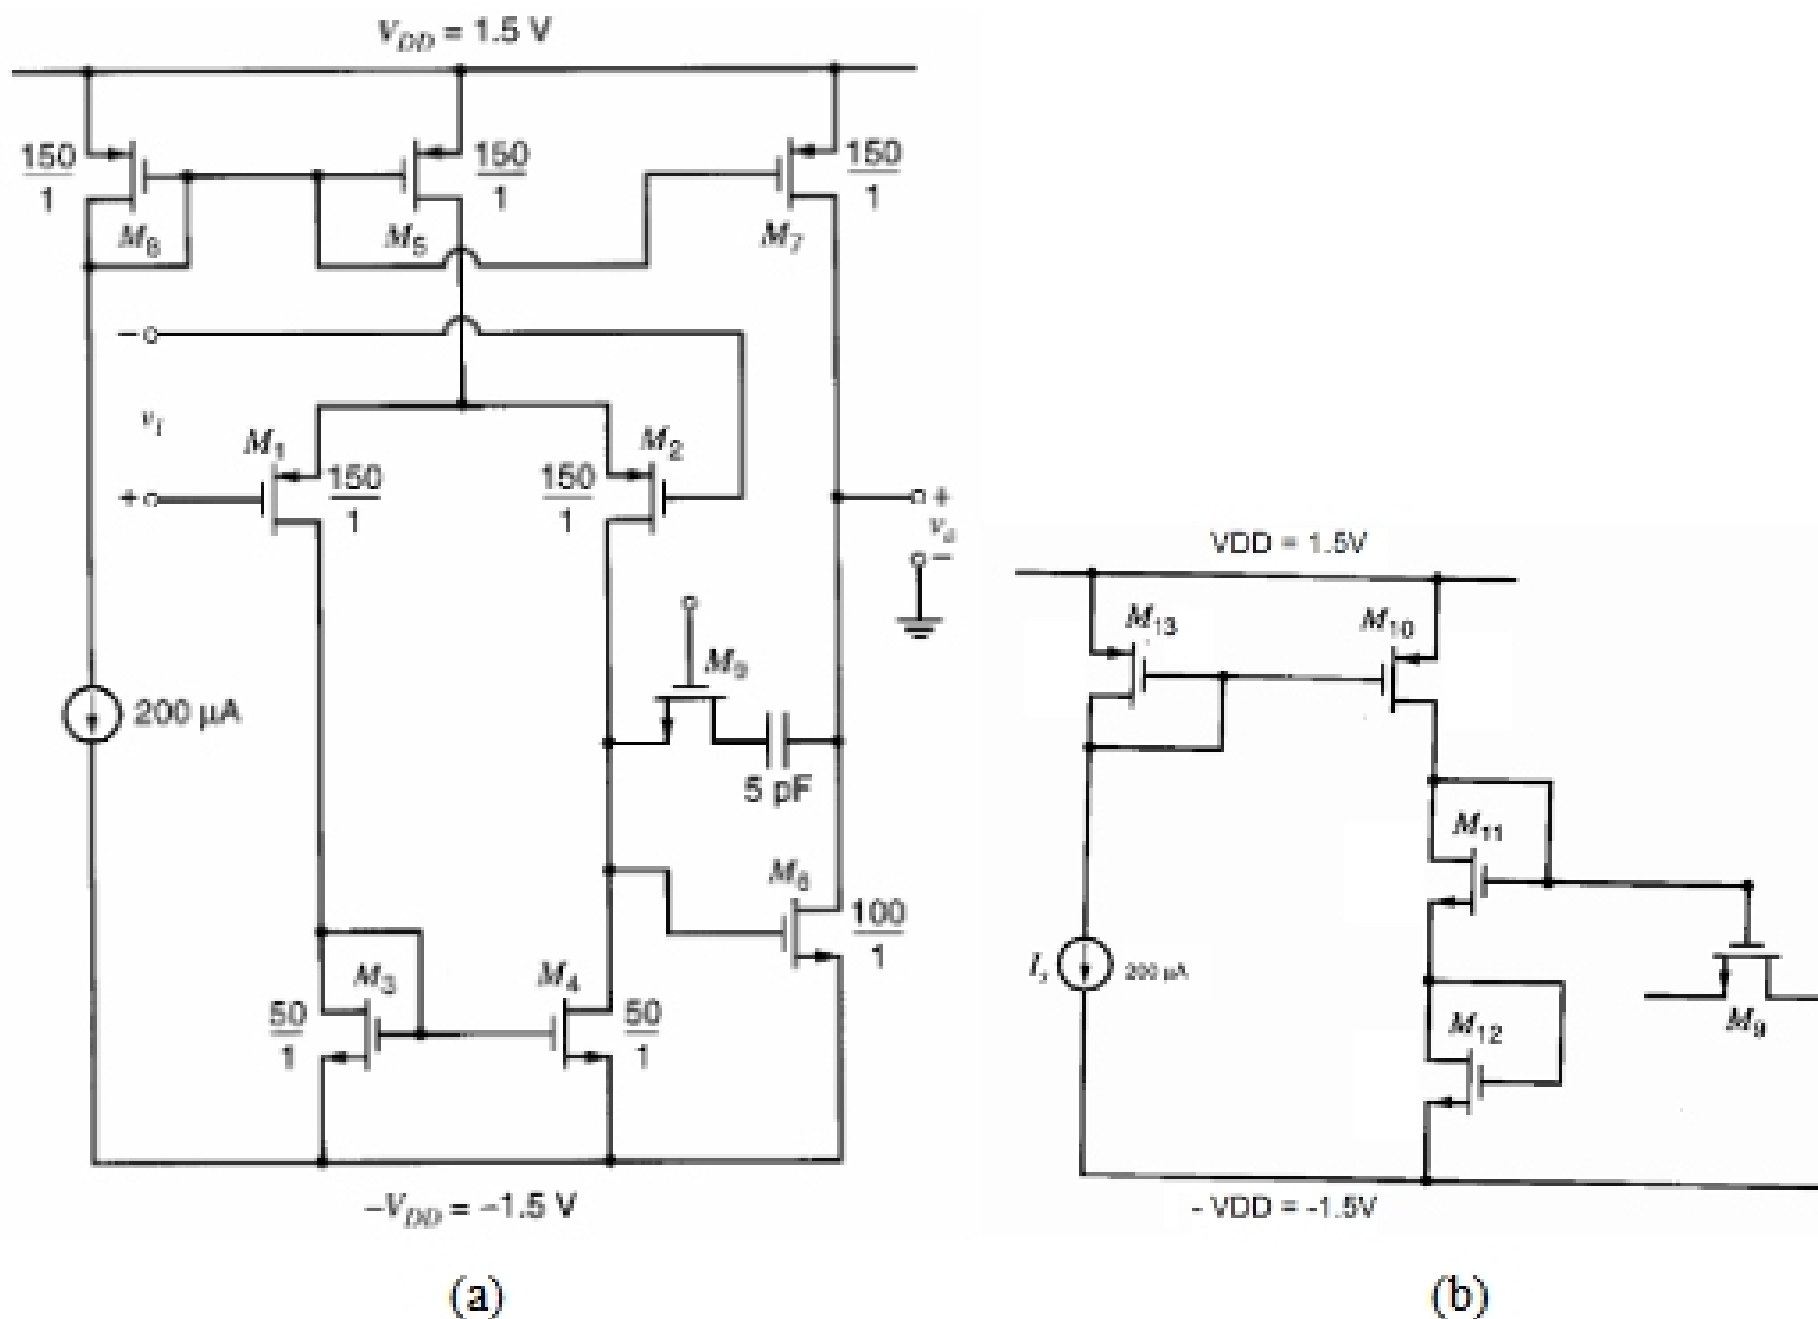

Figure PS10-1
1. This problem concerns the CMOS operational amplifier shown in Fig. PS10-1.
(a) Calculate the open-loop voltage gain, unity-gain bandwidth, and slew rate, for the circuit in Fig. PS10-1(a). Use the parameters of Table PS10-1. Assume that the gate of M_9 is connected to the positive power supply and that the W/L ratio of M_9 has been chosen to cancel the right half-plane zero. Compare your results with a SPICE simulation.
- (b) If the circuit of Fig. PS10-1(b) is used to generate the voltage to be applied to the gate of M_9 in Fig. PS10-1(a), calculate the W/L ratio of M_9 required to move the right-half plane zero to infinity. Let $V_{DD} = 1.5$ V and $I_s = 200$ μ A. Use $L = 1$ μ m for all transistors, $W_{13} = W_{10} = 150$ μ m, and $W_{11} = W_{12} = 100$ μ m. Use Table PS10-1 for other parameters.
- (c) Assuming that the zero has been moved to infinity, determine the maximum load capacitance that can be attached directly to the output of the circuit of Fig PS10-1(a) and still maintain a phase margin of 45° . Neglect all higher order poles except any due to the load capacitance. Use the value of W/L ratio obtained in part (b) for M_9 with the bias circuit of Fig. PS10-1(b). Ignore junction capacitance for all transistors. Use Table PS10-1 for other parameters.